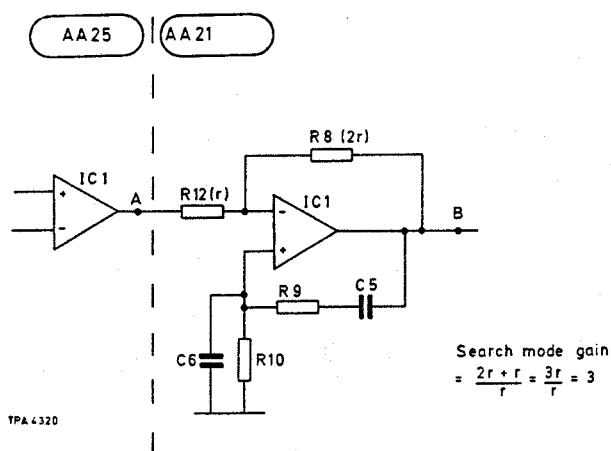

Fig. 4 Phase lock loop amplifier (AA25/AA21)
13. The output of IC1 subsequently provides a swept varactor diode control to sweep not the entire frequency band but only a limited range near to the required fundamental frequency. Phase locking will then occur and the search oscillation ceases. The Wien bridge search oscillator is shown in Fig. 4. C5, C6, R9, R10 form the frequency dependent network and R8, R12 set the gain. When out of phase, point A appears to be at low impedance so that the gain of AA21 IC1 is  $\frac{R8 + R12}{R12}$  which is  $>3$ . This satisfies the oscillatory condition for a Wien bridge circuit. When phase lock occurs, point A opposes movement of point B and so appears to be at high impedance. IC1 gain becomes  $\frac{R8}{R12}$  which is  $<3$ , this prevents further oscillation and IC1 reverts to a straight amplifier. Typical lock and search varactor diode control voltages are as follows: